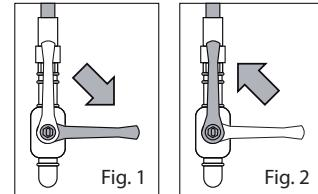

Fig. 1      Fig. 2
- Close the cut-off cock upstream the machine (Fig. 1);
- Close the cut-off cock upstream the machine (Fig. 1).